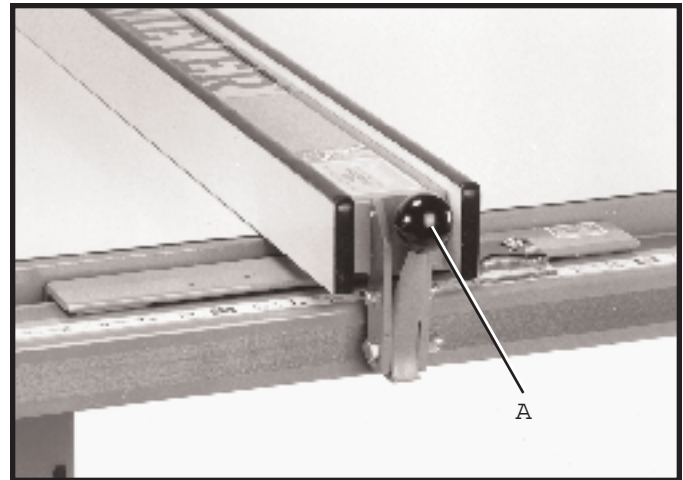
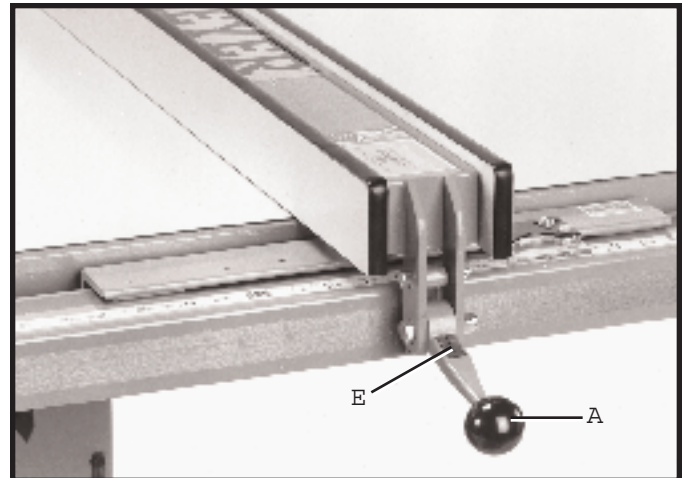

Fig. 24
Fig. 25
1. To move the fence along the guide rail, simply lift up clamp lever (A) as shown in Fig. 24, slide fence to desired position on rail, and push down on clamp lever (A) as shown in Fig. 25, to lock fence in position. **NOTE:** A magnet (E) Fig. 25, is provided to hold clamp handle (A) Figs. 24 and 25, in the up position when moving the fence.